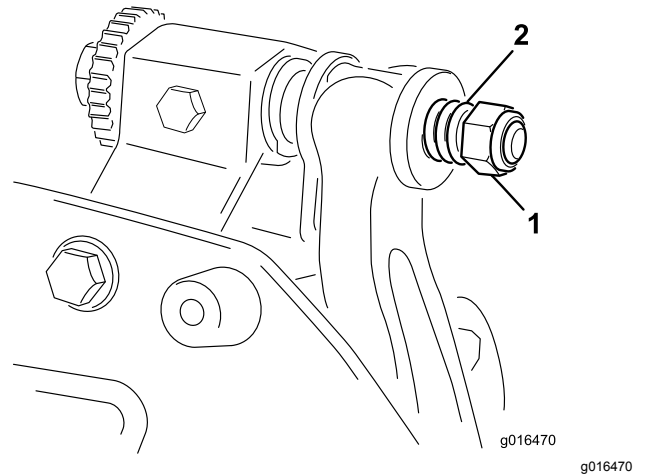

Figure 16
- Tighten the spring tension nut until the spring is collapsed, then back it off 1/2 turn (Figure 16).